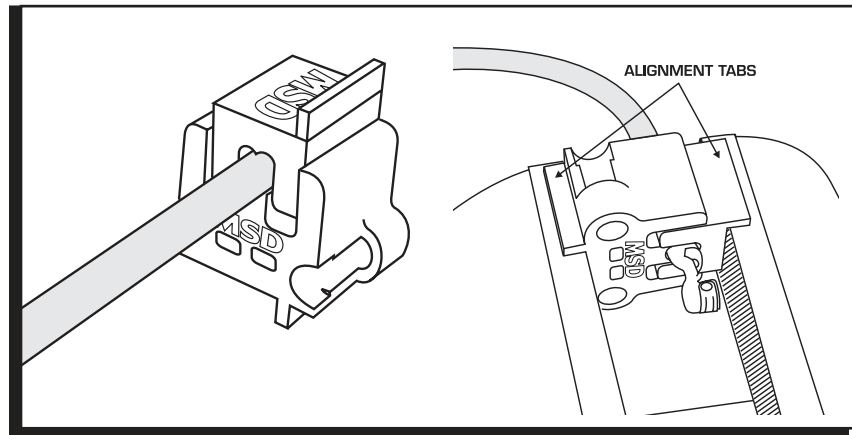

Figure 10 Crimping the Terminal.
4. Slide the other part of the Mini-Stripper-Crimper over the wire terminal and lightly press them together (Figure 10).
- Put the assembly into a vise making sure the alignment tabs are on the outside edge of the vise jaws (Figure 10).